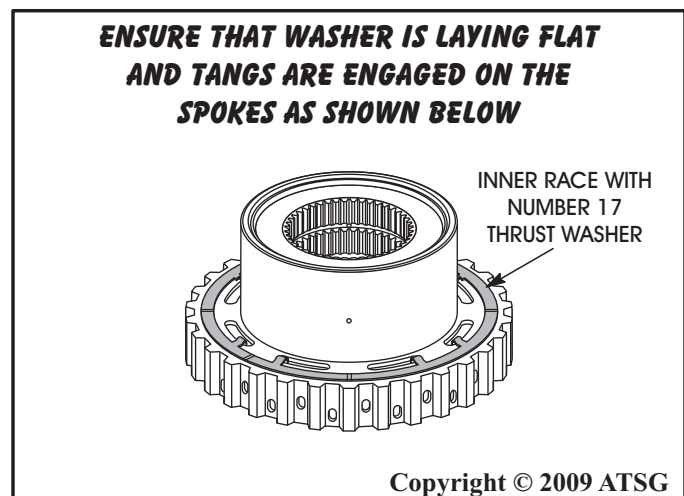

Figure 159
**Note:** Ensure that number 17 thrust washer is laying flat against coast clutch hub and the tangs are engaged with the spokes, as shown in Figure 159.